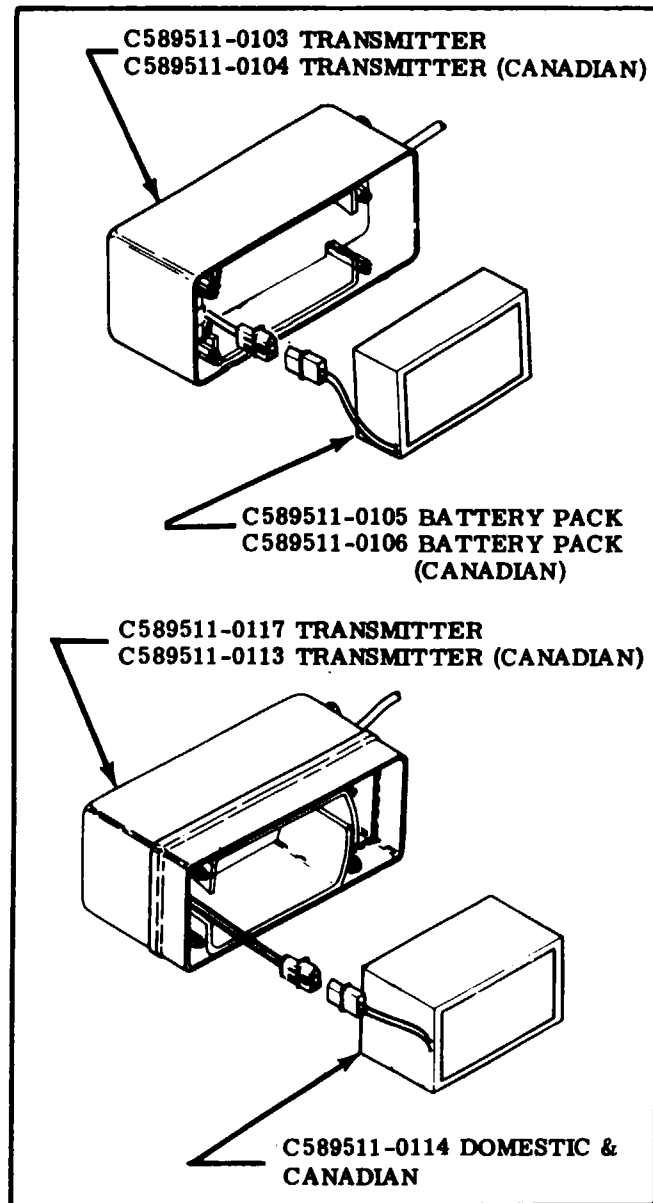

Figure 16-18. BATTERY PACK INSTALLATION.
16-107. REMOVAL AND INSTALLATION OF BATTERY PACK. (See figure 16-18.)
- Place new battery-pack in the transmitter with four batteries as shown in the case in figure 16-18.
- Connect the electrical connector as shown in figure 16-18.